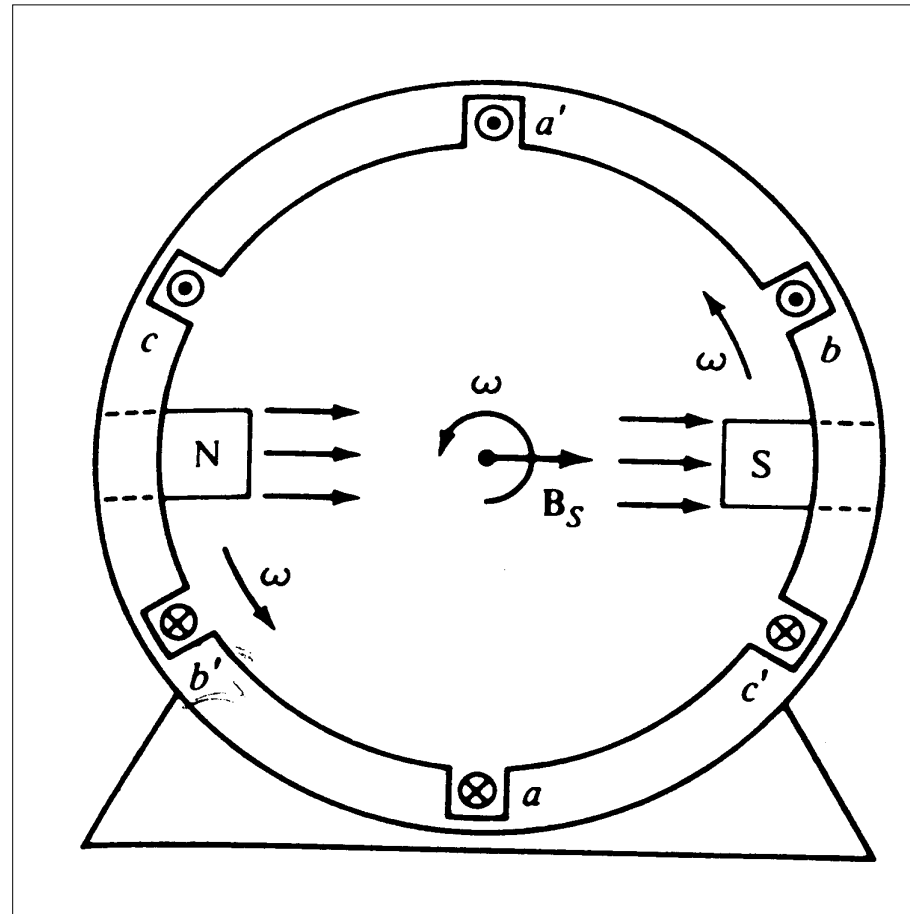

Figure 5.15: The rotating magnetic field in a stator represented as moving north and south poles.
- The rotating magnetic field can be considered as moving magnet as shown in Fig. 5.15.